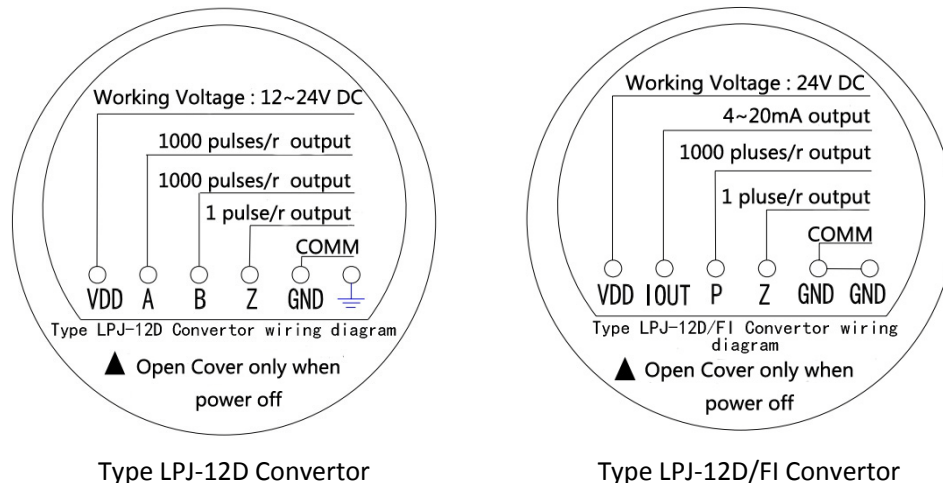

Fig.14 Wiring Terminals for Optical-Electrical Pulse Converter
- a) According to the adopted Type, wiring the terminal as shown in Fig.14